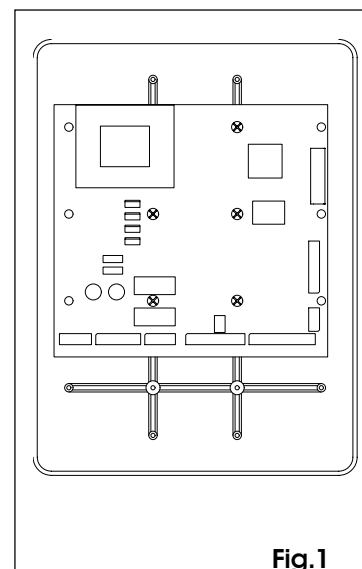

Fig.1
- To secure the control unit in the sealed enclosure, position it as shown in fig. 1 and secure it with 5  $\varnothing$ 4.2x13 self-tapping screws (supplied), fitting the spacers between the card and the guides of the enclosure.